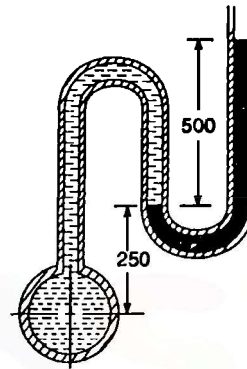

Fig. 2-14.
1. A U-tube containing mercury is used to measure the pressure of an oil (of specific gravity 0.8) as shown in Fig. 2-14. Calculate the pressure of the oil, if the difference of mercury level be 50 cm.